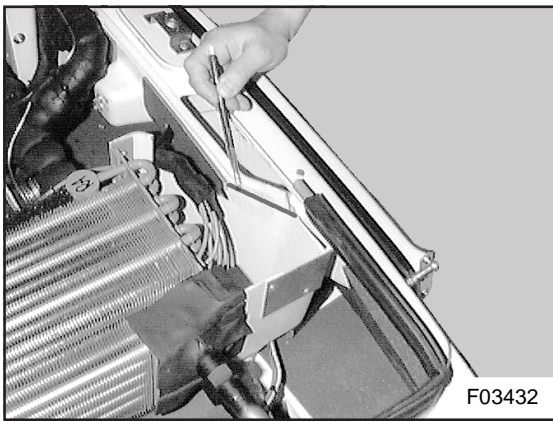

Figure 6a: Left hand gap
9. Close the gap between air duct and evaporator deflector plates left and right with putty and allow to cure (see figures 6a and 6b).